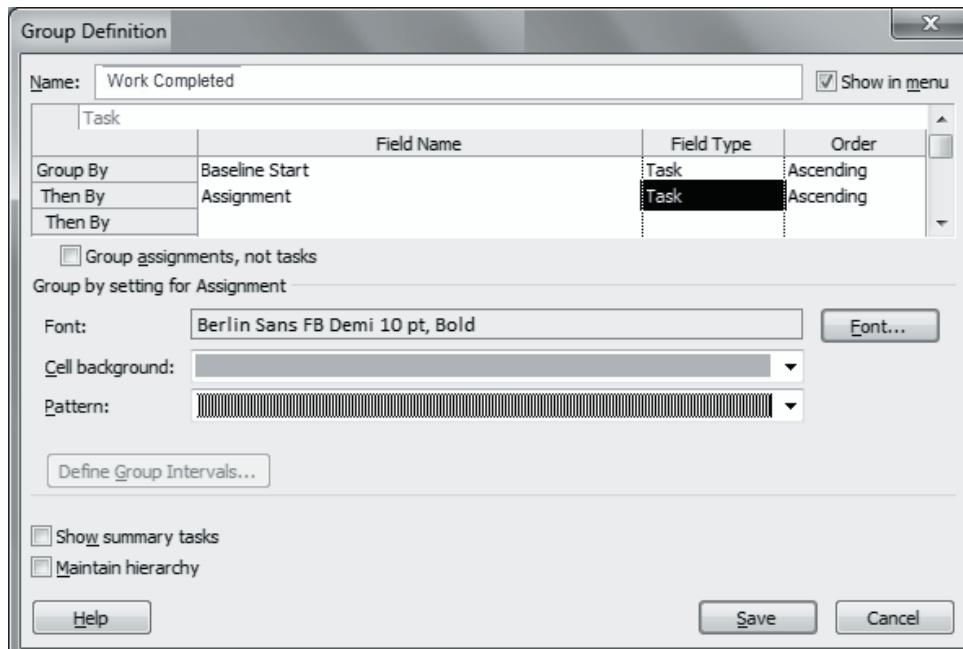

Figure 10.11: Customizing Group in Group Definition Dialog Box
- Click the **New** button to display the **Group Definition** dialog box as shown in figure 10.11.